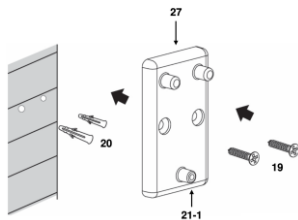

Fig. 21
3. Secure in place using the wood screws (#19). If the wall is concrete, use the wall anchors (#20) as well (Fig. 21).